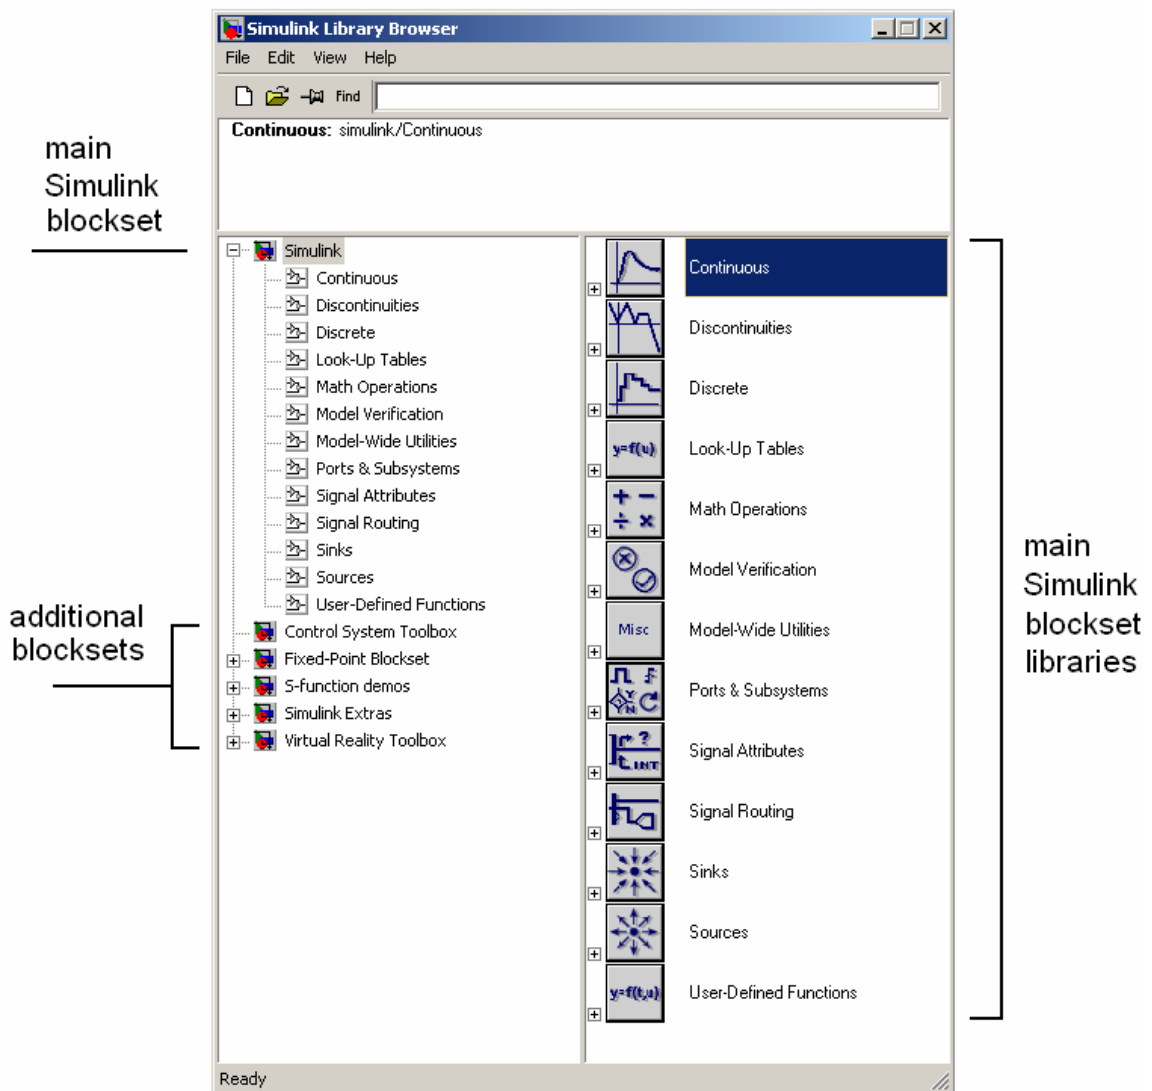

Figure 2: Simulink interface
3. The simulink interface should now appear as shown below in Figure 2.